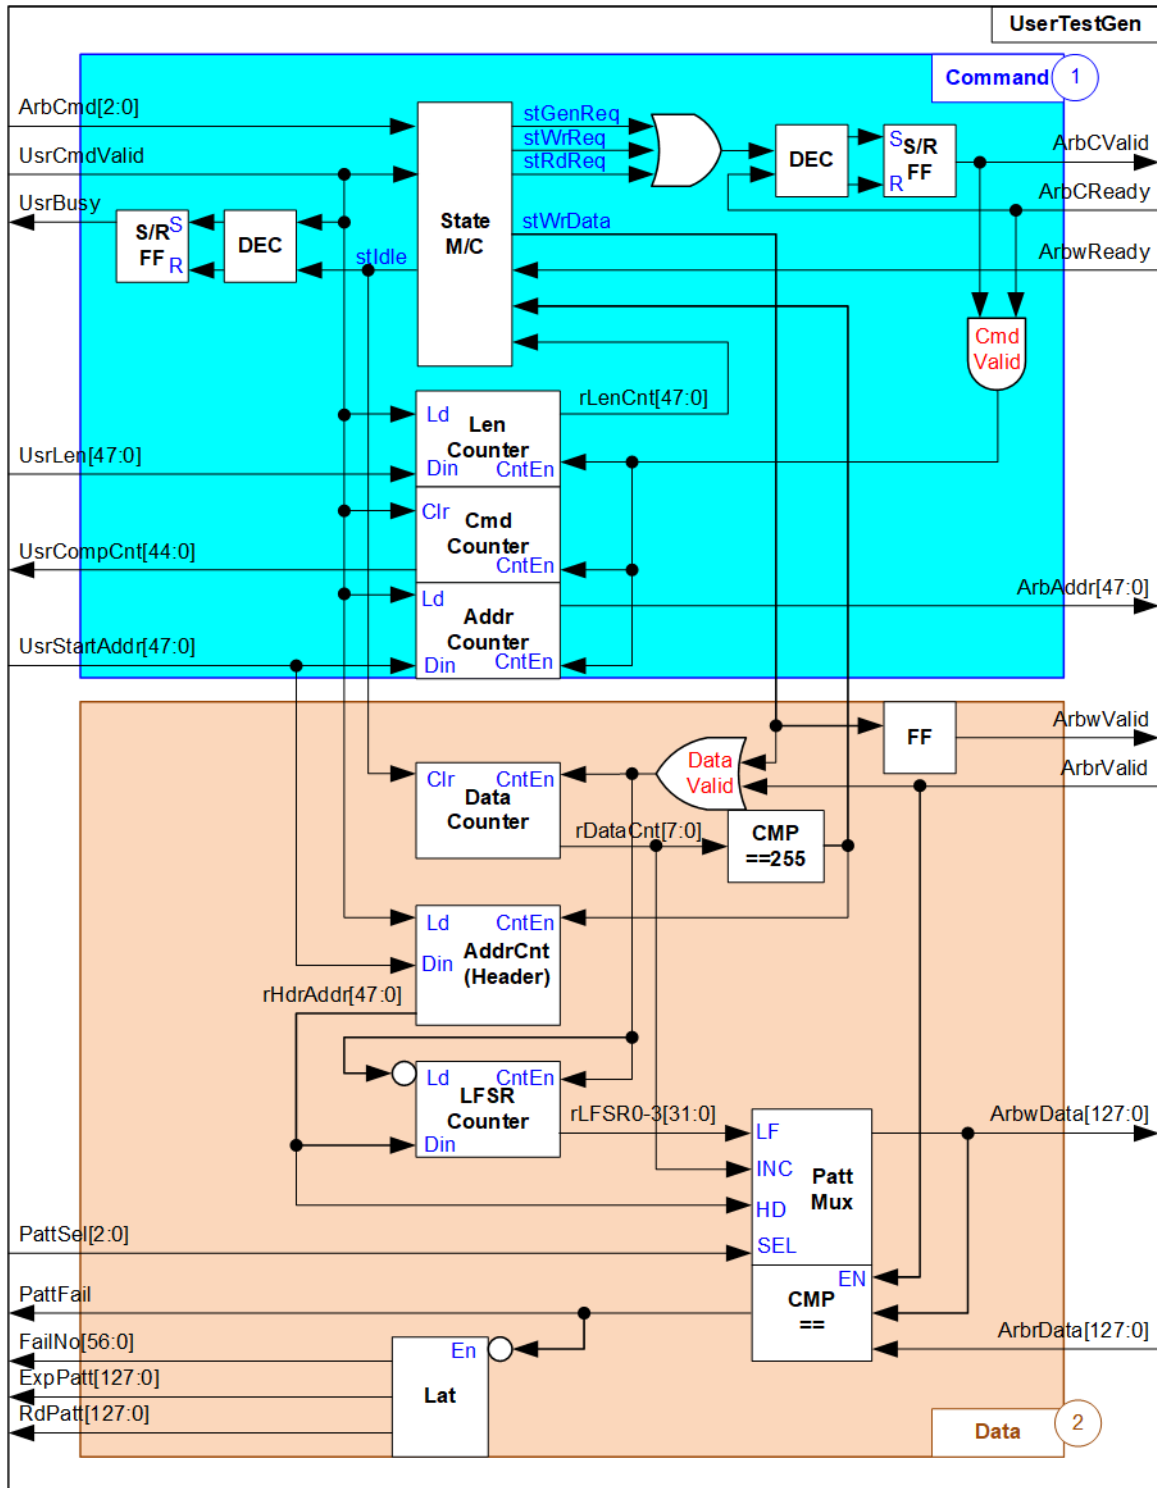

Figure 2-2 UserTestGen block diagram
- (1) In Idle status, ArbCReady is de-asserted to '0'. The user logic must assert ArbCValid to send the new command request and then wait until the Arbiter asserts ArbCReady to '1' to accept the request.
- (2) When running Write command, the user logic needs to send the command request (ArbCValid='1') before sending the data (ArbwValid='1'). The Arbiter must store the order of active user from command interface and send to the user interface to select the active user for sending the data in the same order. After that, ArbWReady is asserted to '1' by Arbiter to accept the Write data from the selected user.
As shown in Figure 2-2, UserTestGen logic design can be divided to Command block (1) and Data block (2).